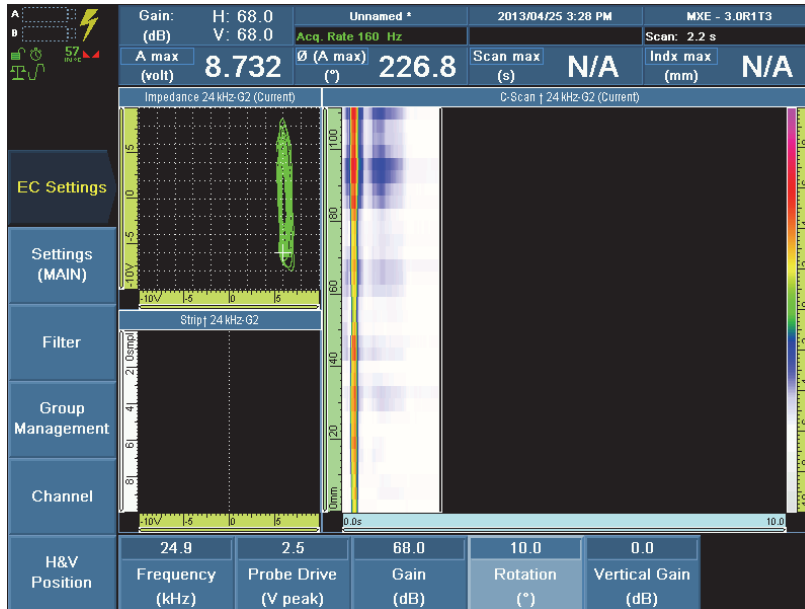

Figure 9-23 Configuring the Rotation parameter for mixing frequency 2
- e) Select **Rotation** ($^{\circ}$), set the value to orient the signal vertically, and then press the Accept key to confirm. In this example, the **Rotation** ($^{\circ}$) value is set to **10.0** (see Figure 9-23 on page 168).